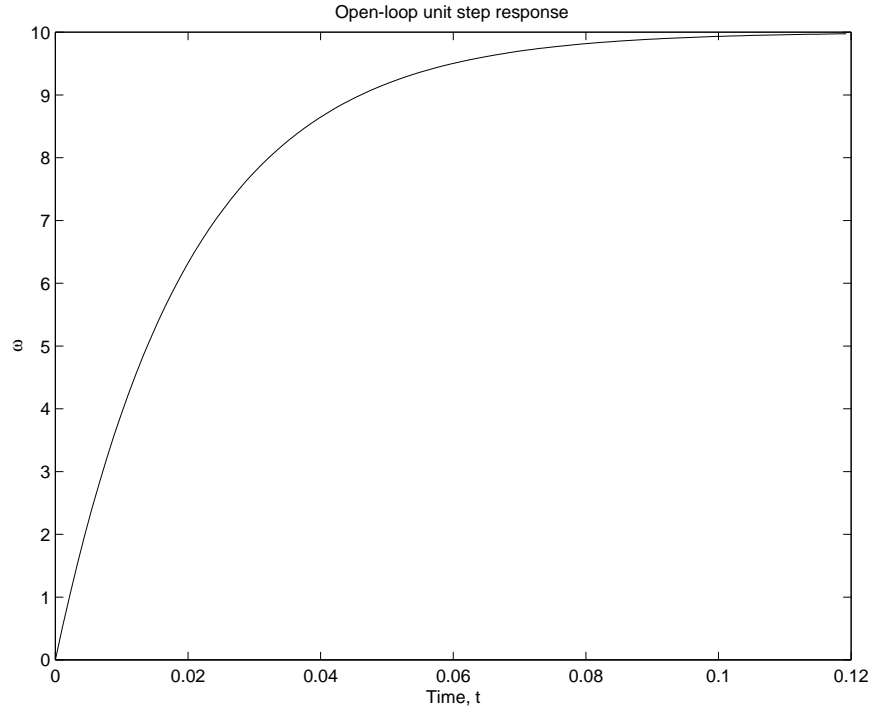
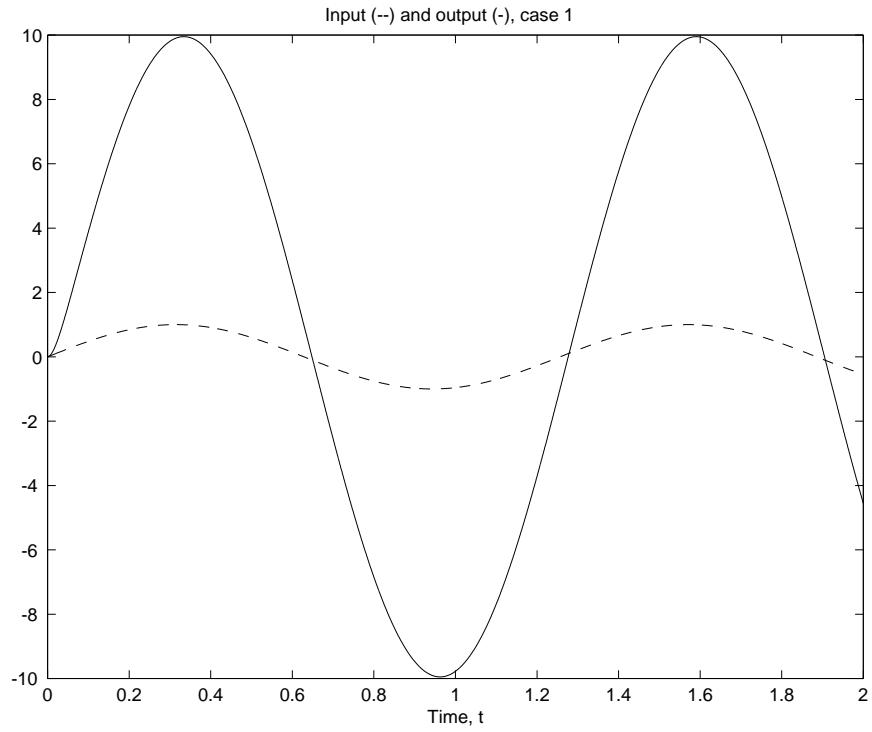

Figure 1: Step response.
Figure 2: Input and output of plant.
Suppose you went in the lab and put a unit step input into the plant and got the output shown in Figure 1.
Note that this is not the same as the model that you derived in the last section; the plot in Figure 1 resulted from a different transfer function. All you can do to find it is to study the shape of the plot and determine the parameters from it using basics of the inverse Laplace transform.
Suppose you went to the lab and put three different frequency sine waves into the DC servo at the input  $V_{in}$  with frequencies 5, 50, and 500 rad/sec. You measure the output of the tachometer in each case and obtain the plots in Figures 2, 3, and 4.
4. Then, plot the step response of the transfer function that you found and compare to the step response in Figure 1. Discuss. Note that the *same* plant was used to generate the step response in Figure 1 as the input-output pairs in Figures 2, 3, and 4.